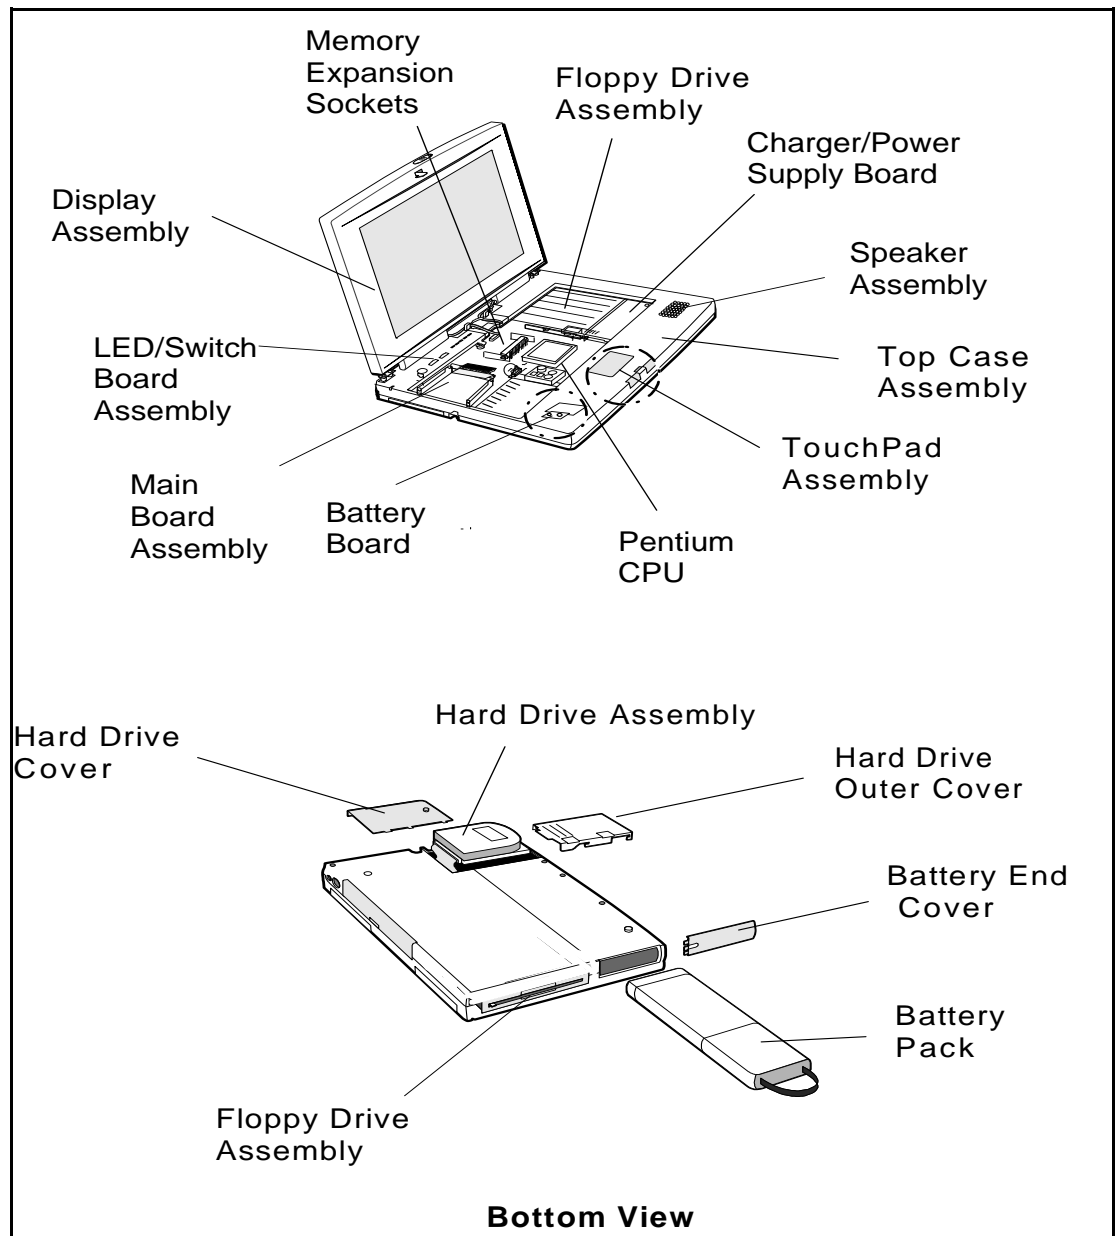

Figure 1-7 Notebook Assemblies
The Extensa Series Notebooks are modular in design and can be disassembled for maintenance purposes using a standard set of flat-bladed, Phillips-head and hexagonal screwdrivers. The major assemblies that comprise a typical notebook in the Extensa family are shown in Figure 1-7 and briefly described in the following paragraphs.
As shown in Figure 1-7, the majority of the notebook's field-replaceable units (FRUs) are located in the system base assembly. These FRUs include:
- Keyboard Assembly (removed in Figure 1-7 for clarity)